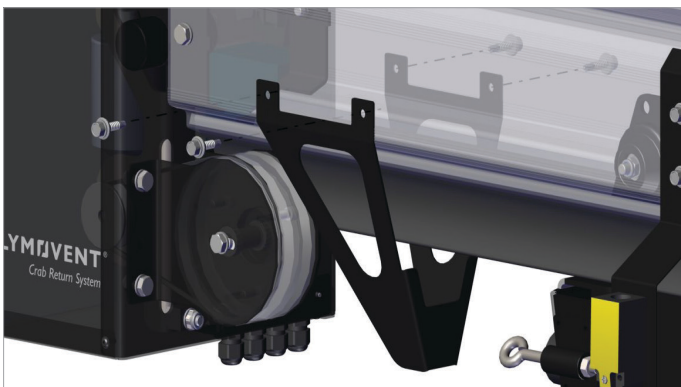

Fig. 4.3.8 Mounting the stop bracket
- Mount the stop bracket to the rail using self-tapping screws 6,3 x 25. Mount the stop bracket 200 mm (8 in.) from the end of the rail. Refer to fig. 4.3.8.